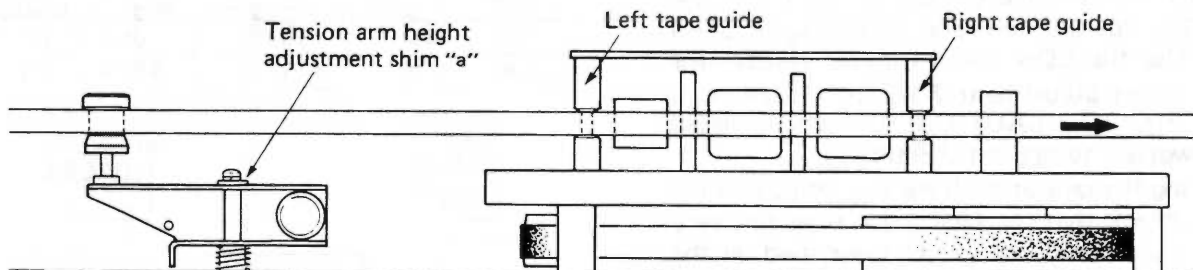

Fig. 2-9. Tape Path Adjustment
2. If curling at the left tape guide is evident, adjust the height of the guide by inserting a shim of appropriate thickness ($\phi 5 \times \phi 8 \times 0.5^t$ or 0.25^t) into "a" of the left tension arm. The same procedures should be followed for the right tension arm height adjustment. See Fig. 2-9.